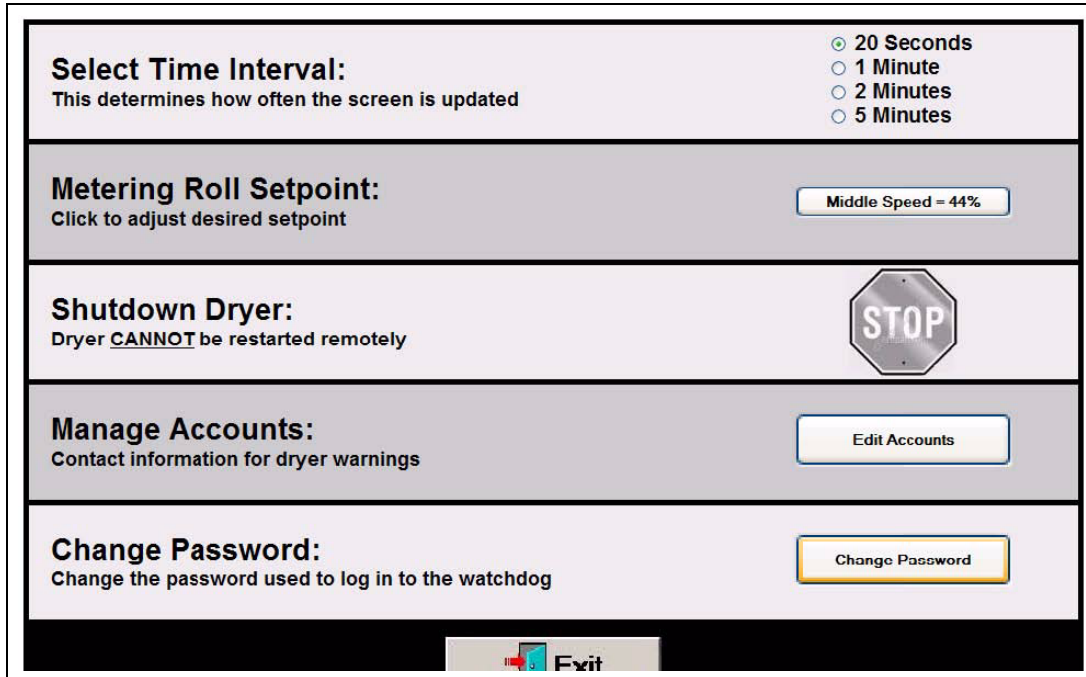

Figure 6K Screen Displayed After Pressing Setup Button
Pressing the  **Setup** button will bring up the screen shown in Figure 6K. The setup screen is not used to setup the dryer as it would at the dryer control, but it is used to further setup the WatchDog System. The Setup screen has been broken into five (5) distinct functions and these will be addressed in the following sections.
Click the “Change Password”, under the setup menu (See Figure 6K on Page 29), to change the current password. (See Figure 6Q.) If you have used the method described in Login Screen on Page 24 to reset the password to the default value, please change the password, for security reasons, immediately. Pressing the Change Password button will bring up the screen shown in Figure 6R. Follow the instructions for changing the password.